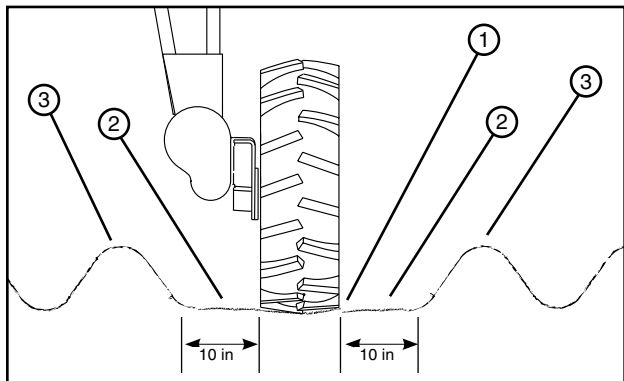

Figure 32-2 1. Wheel Track
3. Remove or flatten the rows at the wheel tracks with a minimum of 10 in (254 mm) of clearance space on each side of the wheel track. See figure 32-2.